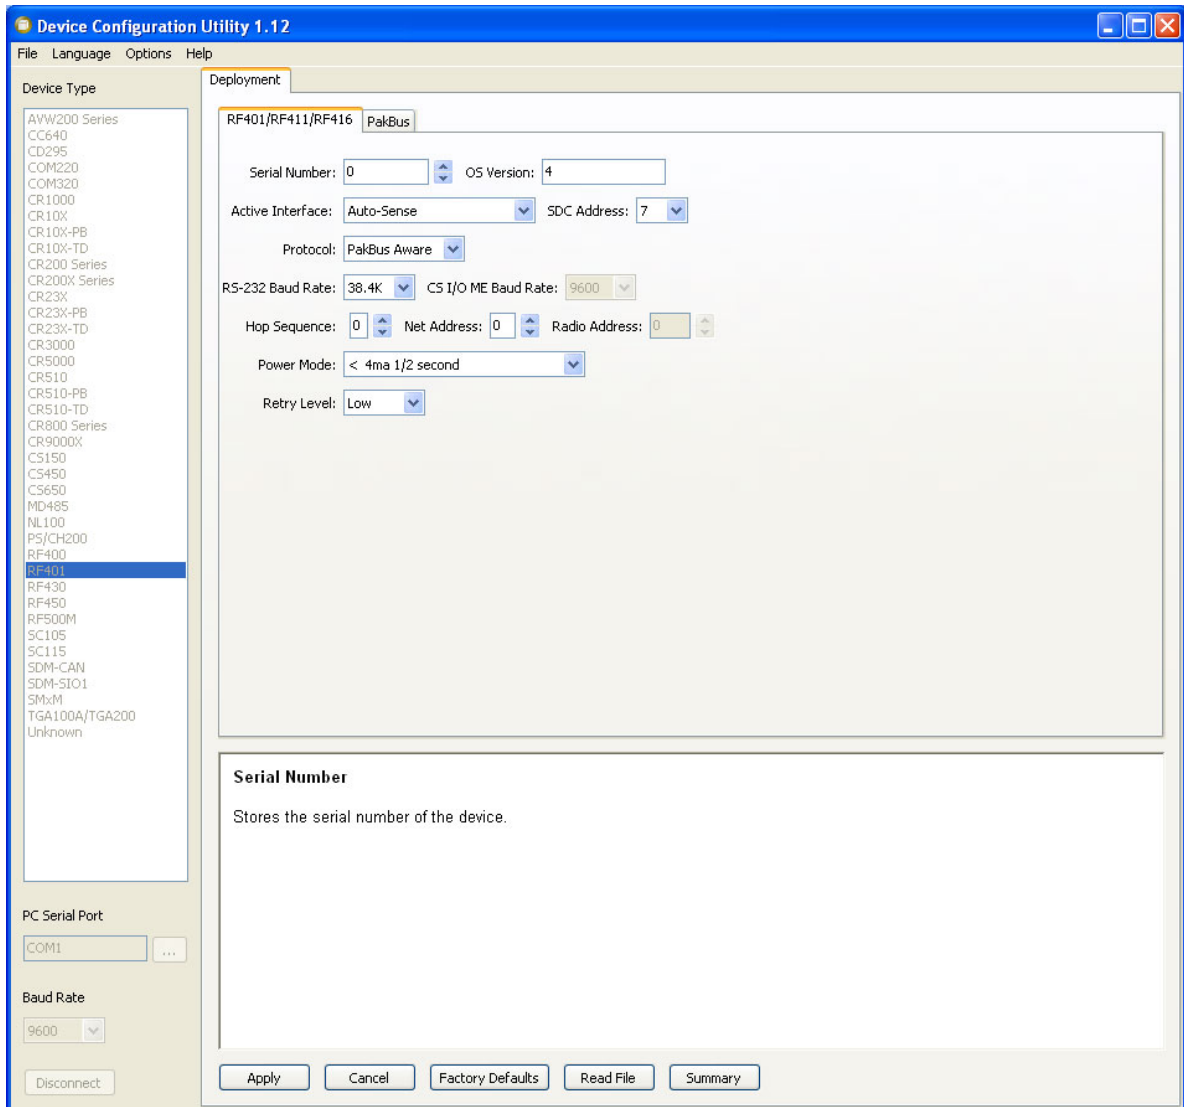

FIGURE 5-1. Default DevConfig Screen for Setting Up the RF401 radios (OS4 or higher)
- (1) Power the radio. Typically this is done by using the AC wall charger.
- (2) Connect the radio to the PC. A standard 9-pin serial cable is used to connect the radio's RS-232 port to the PC's RS-232 port. If using an RF430, the radio must be connected to the PC's USB port via the USB cable.
- (3) Launch DevConfig.
- (4) Click on "RF401" or "RF430" for the device type in DevConfig.
- (5) Select the port matching the COM or USB port on the PC in which the radio is connected.
- (6) Click on the “Connect” button on the bottom left of the DevConfig screen.
- (7) Press the “Setup” button on the radio, and DevConfig will display the Deployment panel—defaulting to the RF401/RF411/RF416 or RF430/RF431/RF432 tab (see FIGURE 5-1).
- (8) Click Apply after changing settings.